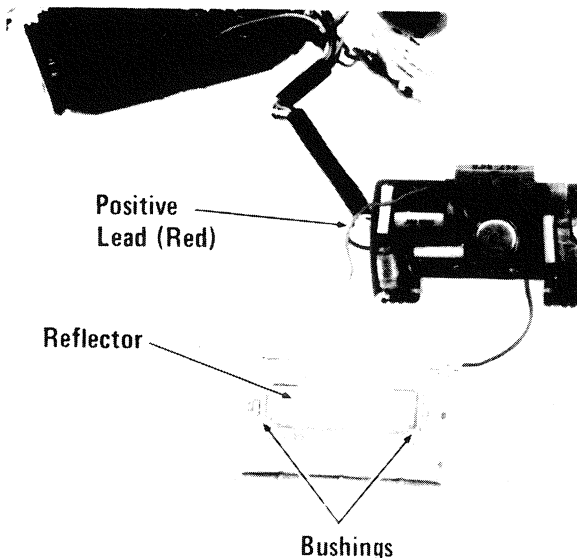

Figure 3-12. Reflector Removal
A. To remove only the reflector, unsolder the red, positive lead from the flashtube, and gently slip the reflector assembly off the flashtube. Fig. 3-12.
3.3.1 POSITIONING. As mentioned above, flashtube removal and replacement should be performed with extreme care to avoid cracking the seals around the metal electrodes. The points where the electrodes enter the glass envelope are the most sensitive areas of the flashtube. Bending the electrodes will cause excessive strain between the glass and the electrodes. The flashtube should be positioned within 2 soft rubber bushings (Figure 3-12) when mounted in the reflector assembly with the leads exerting minimum pressure on the electrodes. Any contact between the flashtube and other components should be avoided to prevent damaging or shorting the electrodes.